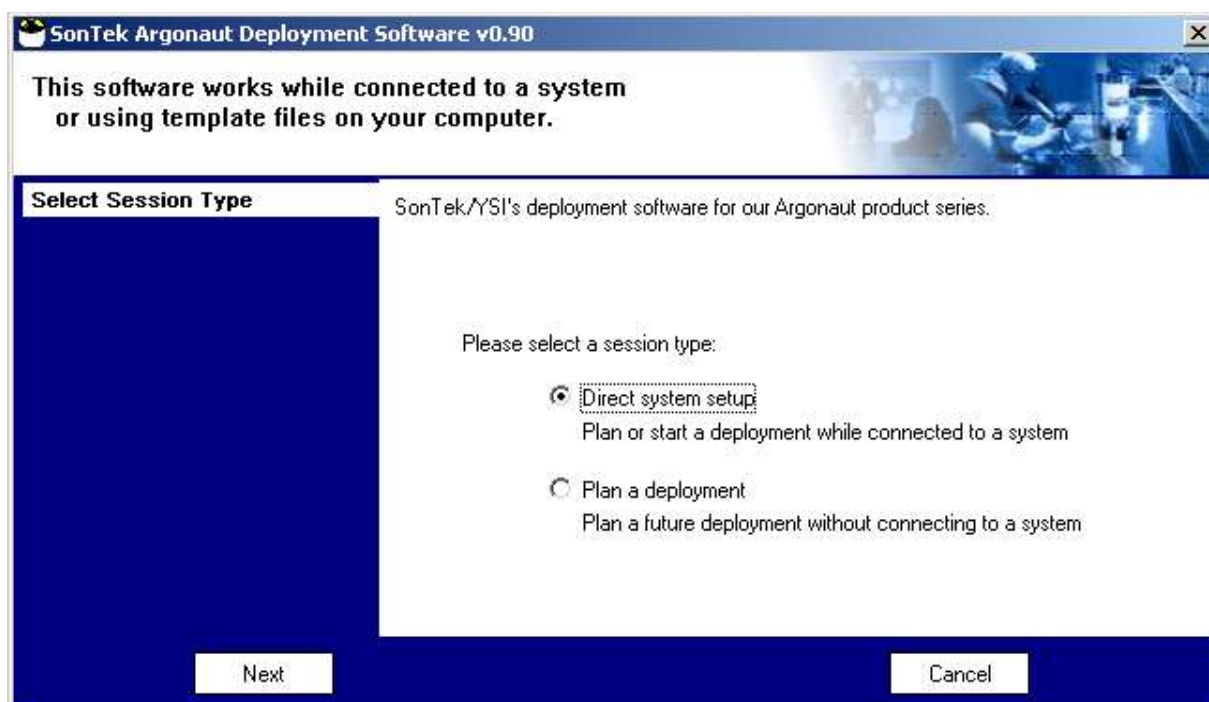

Figure 5-27. Deployment Software: Select Session Type
- The first Deployment screen is shown in Figure 5-27.